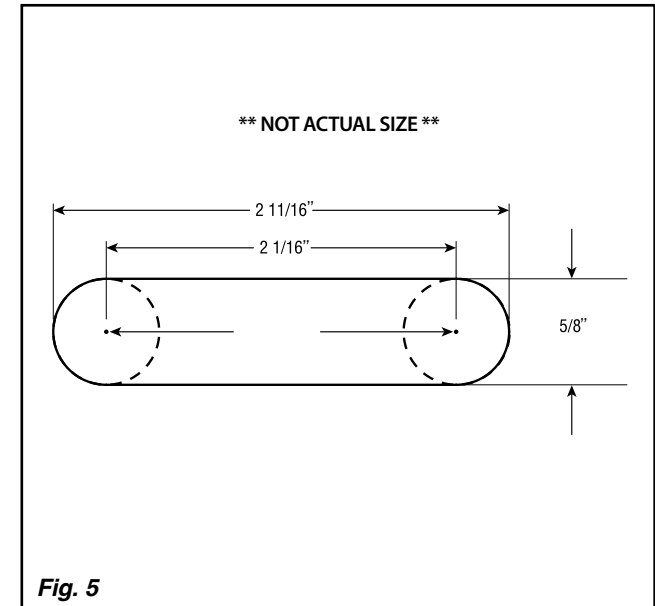

Fig. 5
Step 2: Refer to the dimensions in Fig. 5 to create the opening in your dash for the indicator. Use a center punch to mark your dash panel with the two drill locations. Drill both holes using a 1/8" drill bit. Then, drill the holes out to the maximum of 5/8" diameter in small steps.